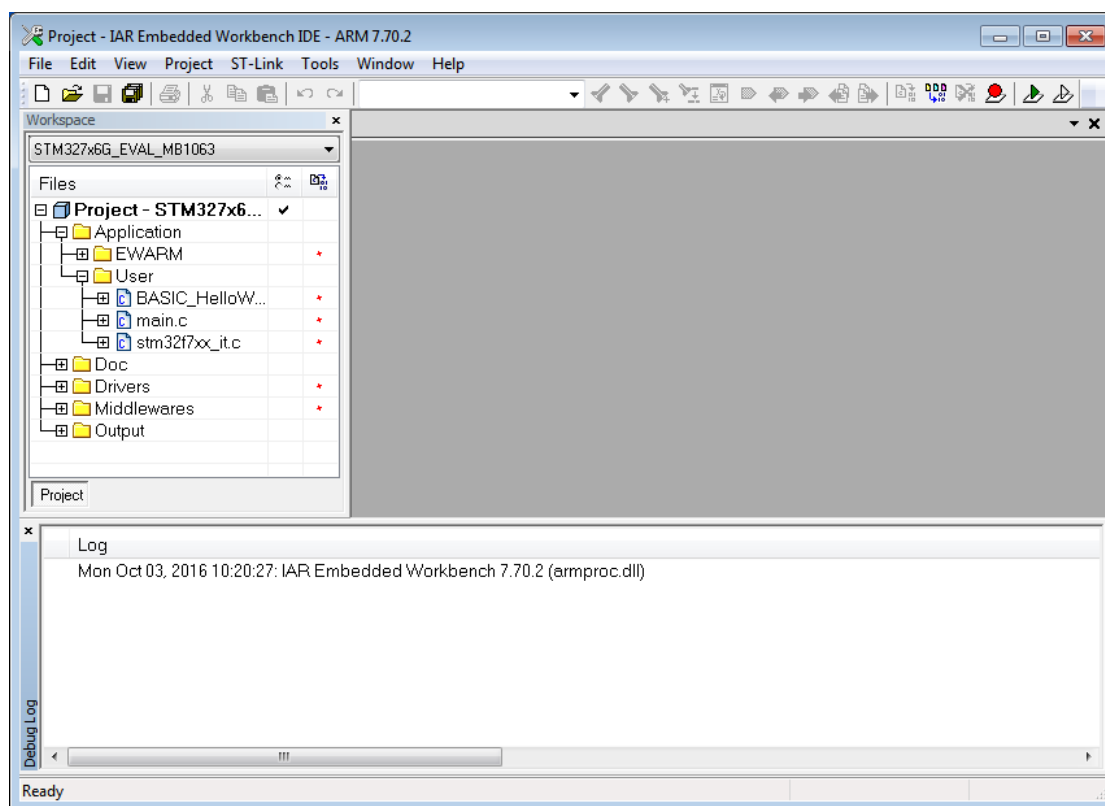

Figure 2: Project workspace files
7. In the cam_gui EWARM workspace, there are missing files *btn.c*, *sldr.c*, *logo.c* and *stm32f7xx_hal_msp.c*. Inspect the workspace file tree, see Figure 2. Add the file to the workspace. In the workspace file tree, select folder *User*, right click on it and from the context menu select *Add→Add Files...* and choose the missing files located in \$STM32Cube_path\$\Projects\STM32756G_EVAL\Applications\STemWin\cam_gui\Src folder.